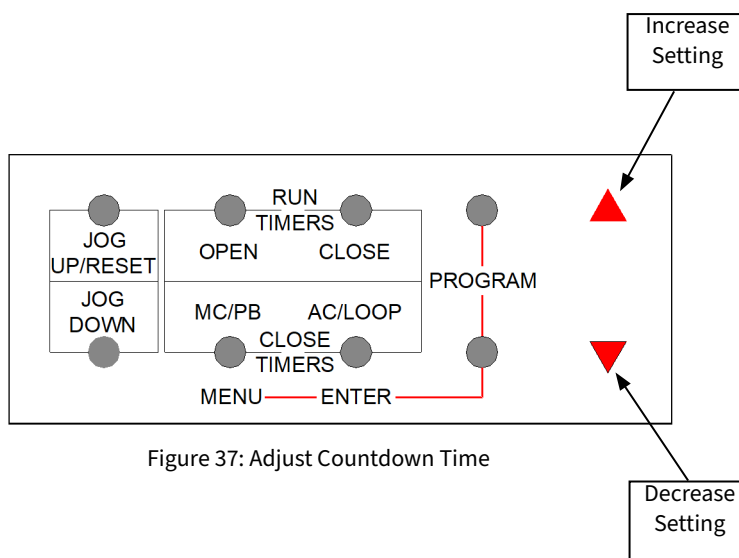

Figure 37: Adjust Countdown Time
- Press and release the PROGRAM buttons to change the countdown time to the desired duration (Maximum time 99 seconds). See Figure 37.